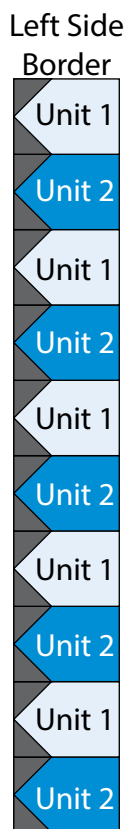

Fig. 10
6. Sew (5) Unit 1 rectangles and (5) Unit 2 rectangles together, alternating them from top to bottom, to make the Left Side Border (Fig. 10).